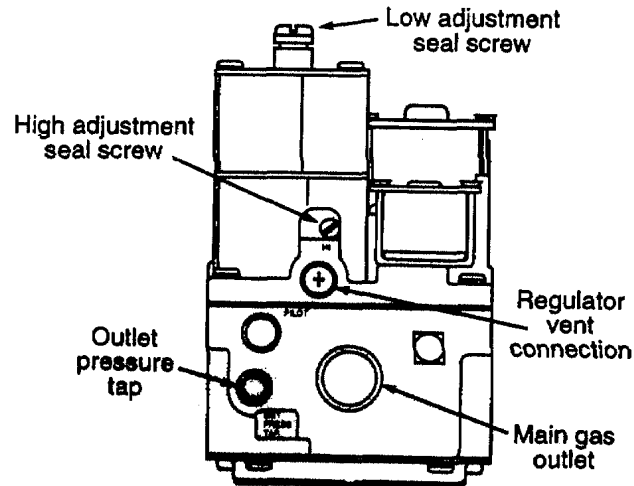

Figure 23: Outlet view of two-stage, automatic gas control valve
- a. Remove the gas pressure regulator adjustment cap screw from the automatic gas control valve. The cap screw is located on the outlet side of the valve. Refer to Figure 23.